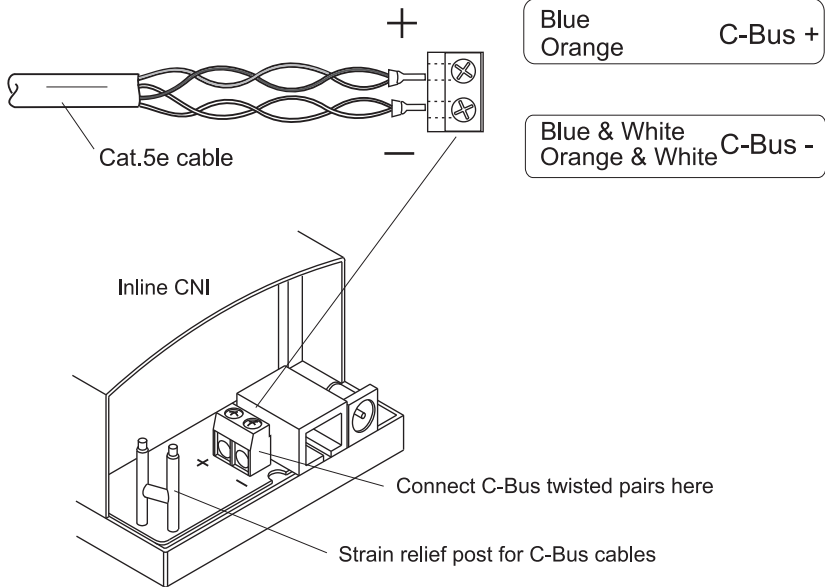

Figure 9. C-Bus network wiring details
3. Crimp the wire pairs together using bootlace connectors, if available. Connect the twisted pairs for C-Bus positive (+) and C-Bus negative (-) to the screw terminals on the PCB connector. The C-Bus network cable wire colour assignments are defined in Figure 9.